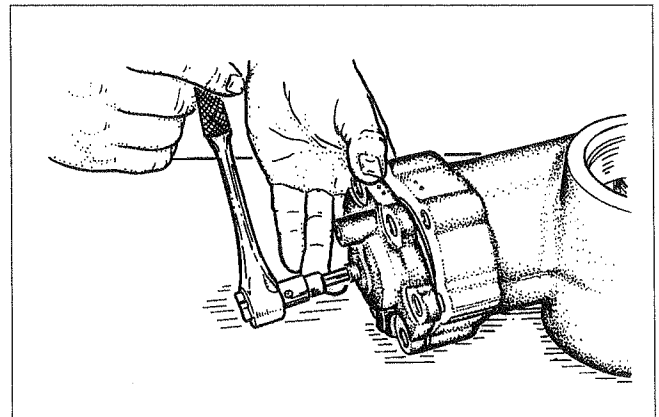

Figure 42
3. Tighten the adj. screw to 11.3Nm with a 6mm allen wrench in order to tighten (fasten) the indexed brg. assy. Unscrew the adj. screw (Figure 42).